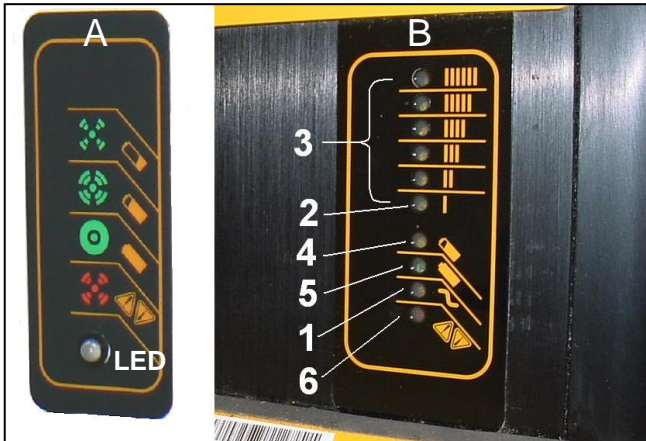

Figure 8-5
These vehicles are equipped with a remote panel (Fig. 8-5 A) with a single LED which indicates the Delta Q status. For each Delta Q the remote panel will be located near the charger receptacle. See SINGLE LED DISPLAY.
3. To determine the charging algorithm, apply AC power to the charger. The current algorithm # is indicated by the 80% LED light (Figure 8-5 #4). A single digit algorithm # is indicated by the number of blinks separated by a pause. A two digit algorithm # is indicated by the number of blinks for the first digit followed by a short pause, then the number of blinks for the second digit followed by a longer pause.